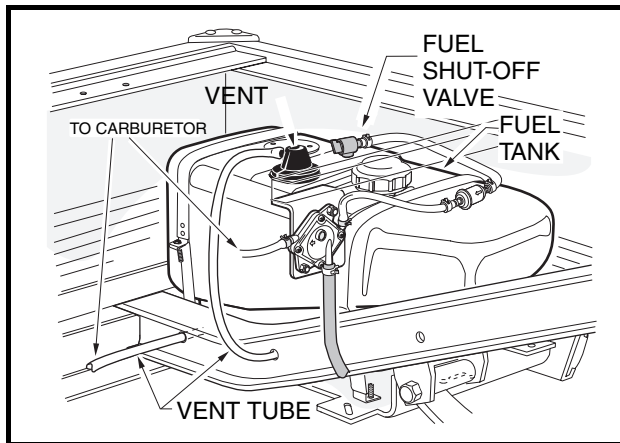
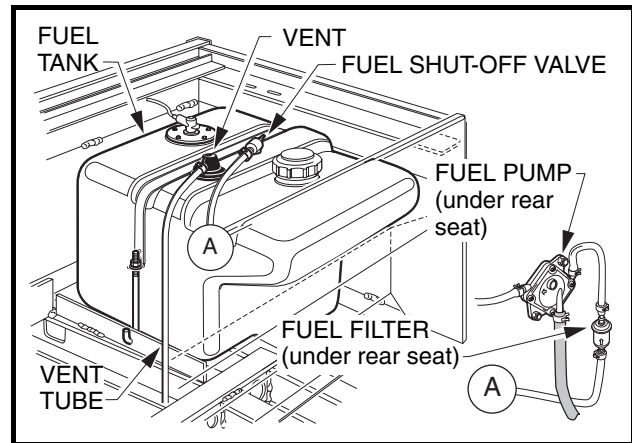

Figure 10-11 Pioneer 1200 Fuel Tank
Figure 10-12 Pioneer 1200SE Fuel Tank
- If the vehicle has an all-weather enclosure installed, the gas tank must be properly vented as shown (**Figure 10-11, Page 10-8**).
1. Fill the fuel tank with fresh, unleaded gasoline only (**Figure 10-11, Page 10-8 or Figure 10-12, Page 10-8**). See preceding **DANGER, CAUTION and NOTE**.